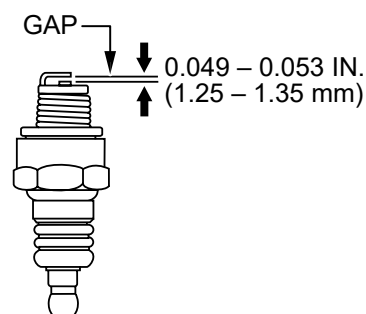

Figure 64. Spark Plug Gap Adjustment
4. Measure the spark plug electrode gap (Figure 64) with a wire-type feeler gauge. If needed, adjust the gap to 0.049–0.053 in. (1.25–1.35 mm) by carefully bending the side electrode.